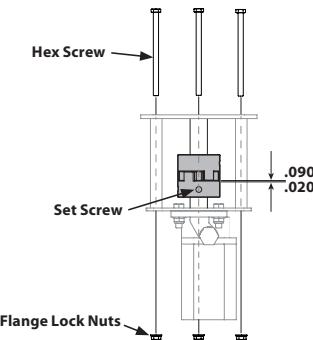

Figure 22
2. Remove the three flange lock nuts and hex screws that secure the pump to the coupling shield. Two flange lock nuts and hex screws are at the bottom corners and one is in the top center. See Figure 22.
11. Set .020-inch to .090-inch of a clearance/gap between the nylon "spider" and the engine coupling half by sliding a feeler gauge between the nylon "spider" and the engine coupling half and moving the pump coupling half as needed. Install the set screw and torque to 78 in-lbs to secure the pump coupling half. See Figure 22.